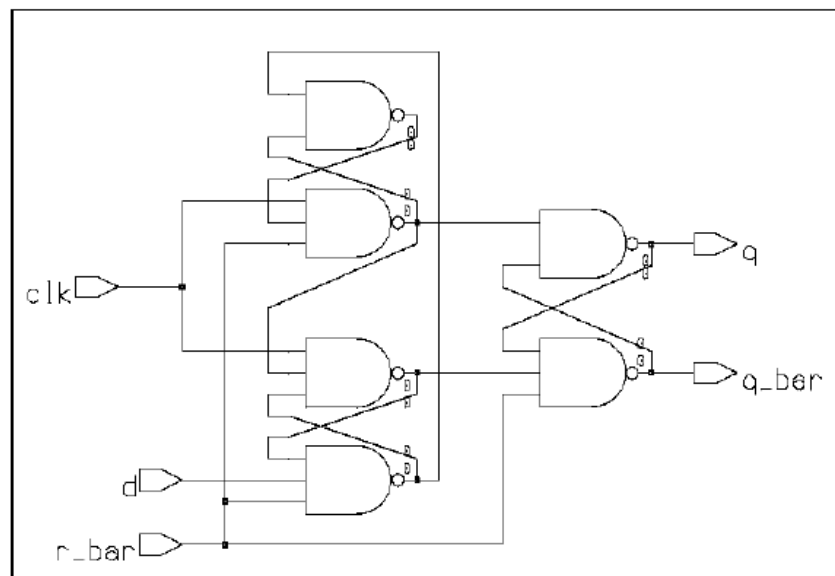
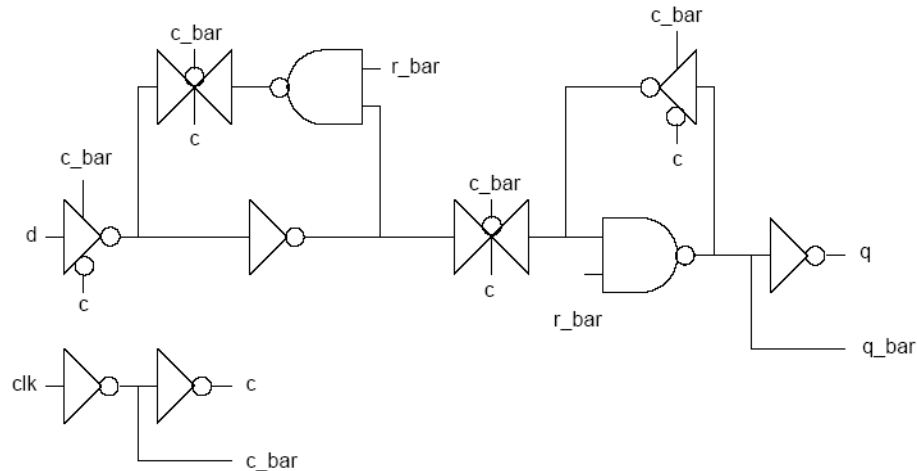

Figure 1: Positive Edge Triggered Flip-Flop Using Logic Gates
Figure 2: Positive Edge Triggered Flip-flop Using CMOS Transmission Gates and Clocked Inverters
It is often desirable to be able to reset asynchronously the state of the register to a known value (usually zero). A typical gate implementation of a positive edge-triggered master-slave D flip-flop is shown in Figure 1.
An example for a static CMOS transmission gate-based implementation is shown in Figure 2. Use of this design, or similar designs more adapted to CMOS technology, would result in many fewer transistors than the flip-flop of Figure 1, and it is not recommended that Figure 1 be used. Note that a conceptually simpler starting point would be a flip-flop composed of two latches (connected in master/slave configuration) like the master latch in Figure 2 (which is still not being held up as the best design).
**Note:** “**rstn**” corresponds to “**r\_bar**” in Figure 2.